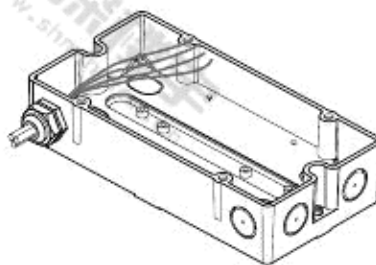

Fig. 5
4. Secure the M20 cable glands on the housing and guide in the cables (Fig. 5).